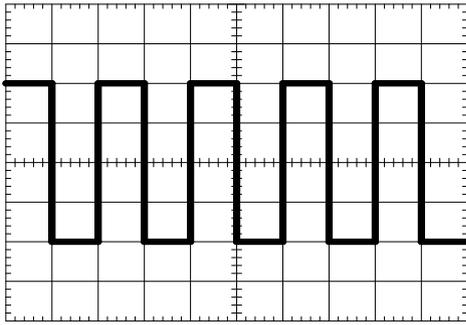

Fig4-3
- (1) Turn on the power. The trace would appear on the screen about 20 seconds later. If the trace wouldn't appear after 60 seconds, please check the setting of the switches and controlling knobs again.
- (2) Adjust the knobs INTEN and FOCUS to get the clear and comfortable trace.
- (3) Adjust CH1 position and the potentiometer for trace rotating to make the trace be parallel with the horizontal scale. (Use a screw to rotate the potentiometer ④).
- (4) Use the probe 10:1 to input the calibrating signals into CH1 input.
- (5) Set the key AC-GND-DC to be AC. A square wave shown as Fig. 4-3 would appear on the screen.
- (6) Adjust the FOCUS to make the trace be clear.
- (7) As for other kinds of waveforms, adjust the vertical attenuator, the sweep time switch, the vertical and horizontal position knob to the proper setting. The amplitude and the time can be read out easily.